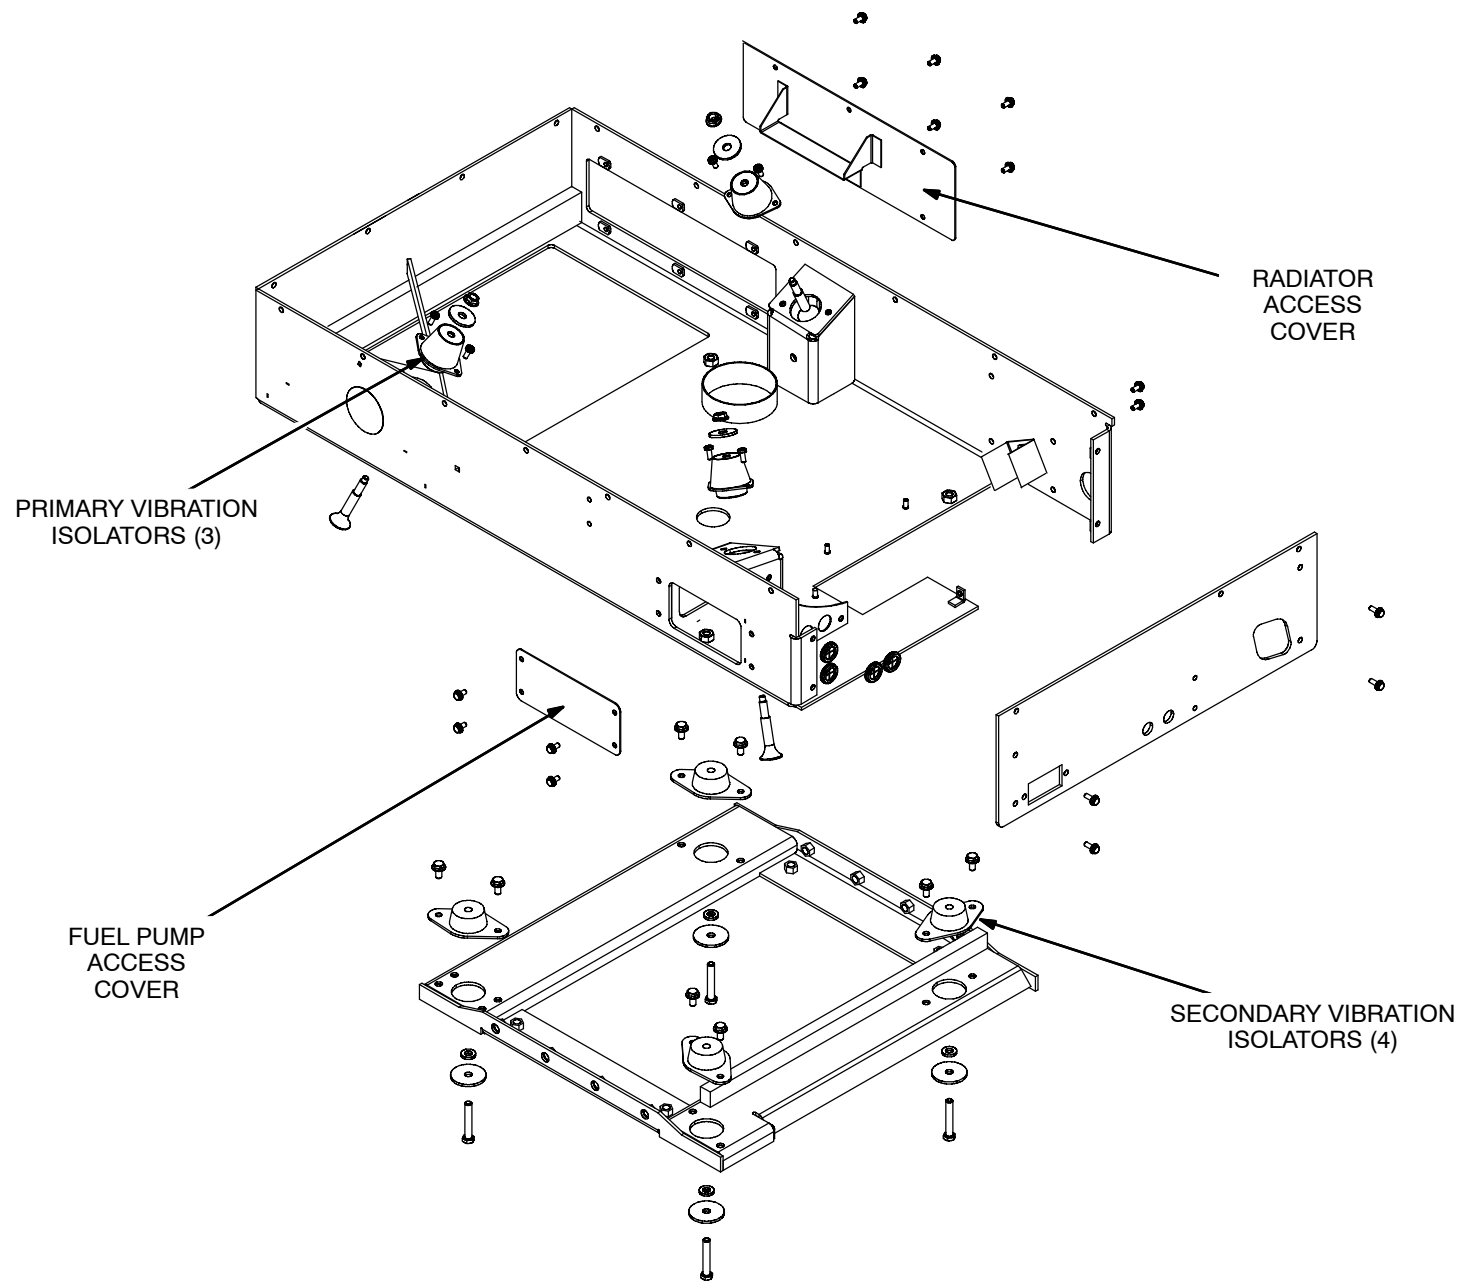

FIGURE 4-3. MOUNTING SYSTEM
The fuel pump is mounted inside the engine mounting tower in the base and is accessible by removing the cover on the side of the base (Figure 4-3).
3. Remove the radiator access cover on the back of the base (Figure 4-3).